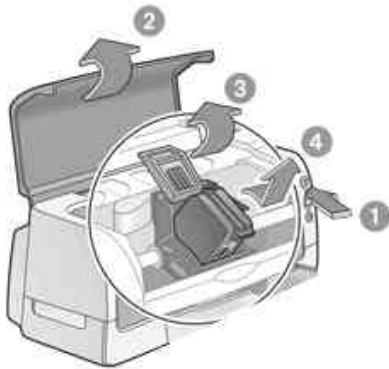

Fig. 3
4. The print cartridge cradle moves to the center of the printer (Fig. 3 on the next page)